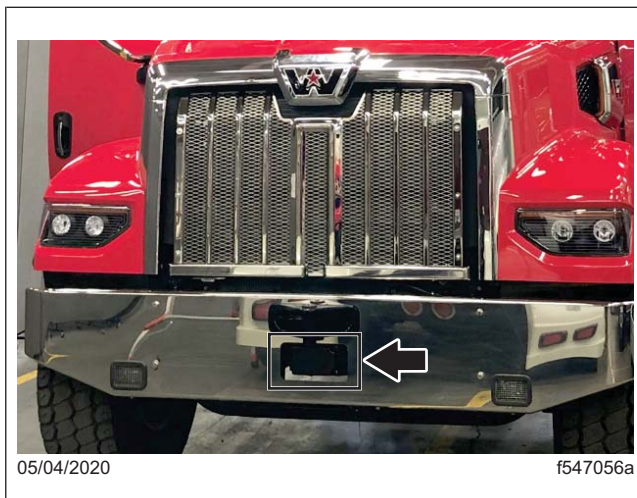
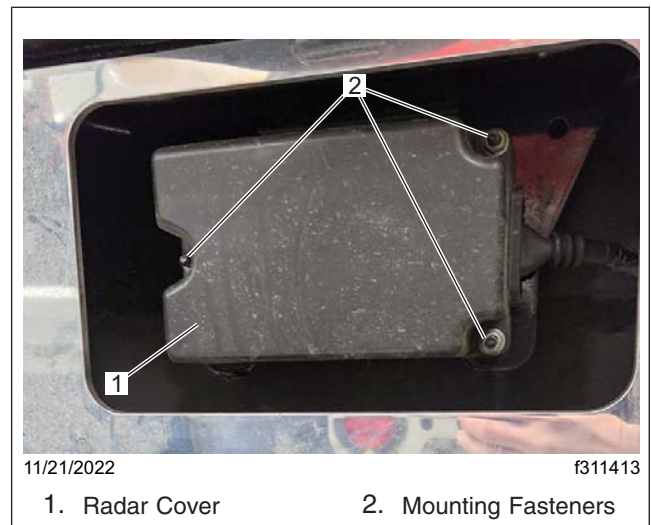

Fig. 1, Forward Radar Location
Fig. 2, Radar Cover Removal
5. **Figure 1** shows the location of the forward radar. Remove the three fasteners from the radar cover, then remove the cover. See **Fig. 2**.